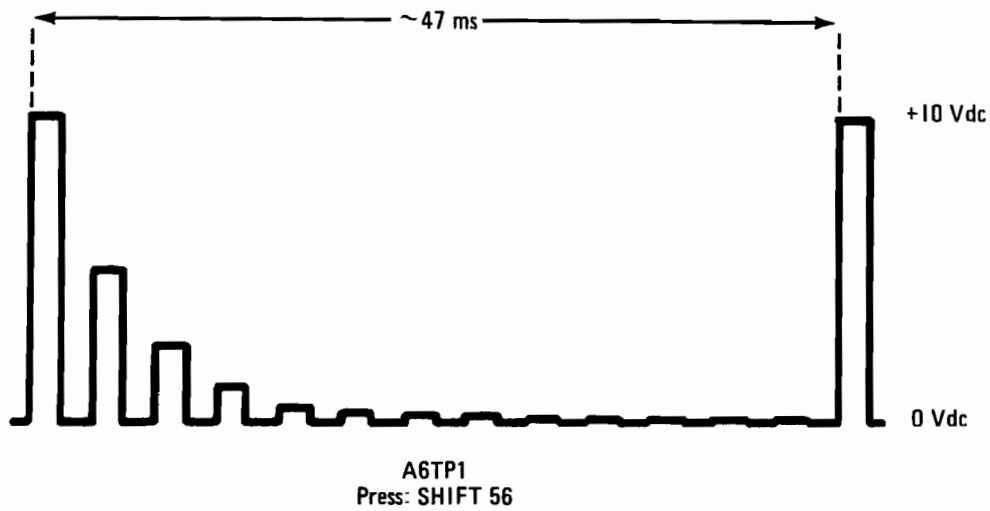

Figure 8-43. Bandswitch DAC Test Waveform
- a. Check the bandswitch DAC output at TP1 as shown in Figure 8-44. If this signal is incorrect, run the bandswitch DAC test by entering [SHIFT] [5] [6]. Then check TP1 for the waveform shown in Figure 8-43.